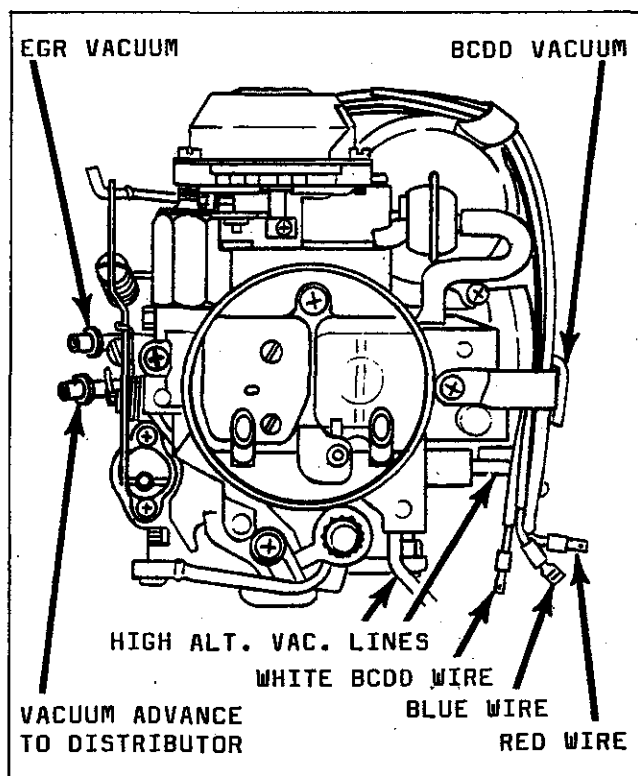

Figure 2
7. Disconnect the following carburetor lines and wires. Identify removed lines and wires to aid in reassembly. See figure 2.
NOTE: Some vehicles have altitude compensation devices which have two (2) vacuum lines connecting the carburetor with a unit mounted on the left inner fender, behind the BCDD unit. These lines may be discarded. See figures 2 and 3. The BCDD electrical wire will not be used on the Weber Carburetor and should be disconnected and discarded.